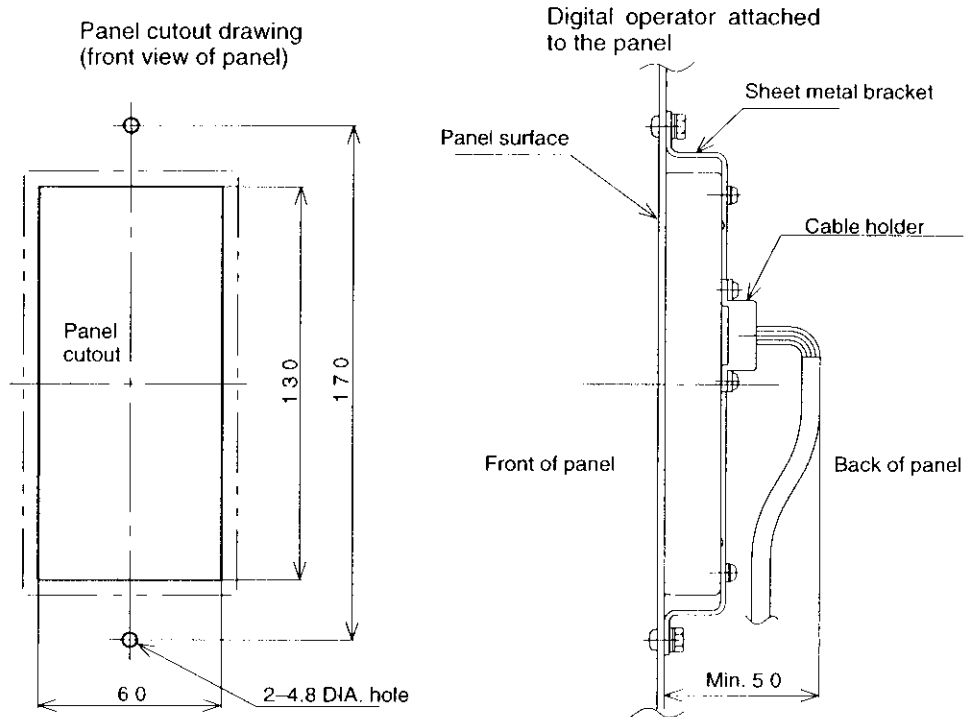

Fig. 3 Method 2
- Provide holes and a panel cutout on the mounting side and support the digital operator with a sheet metal bracket from the back of the panel, as shown in Fig 3.